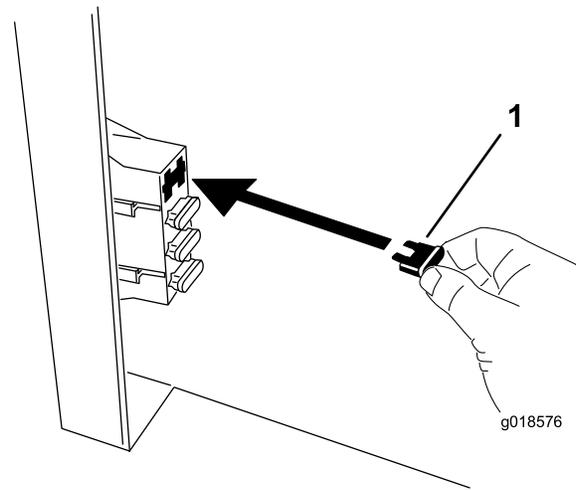

Figure 7
14. Install the fuse (Figure 7).